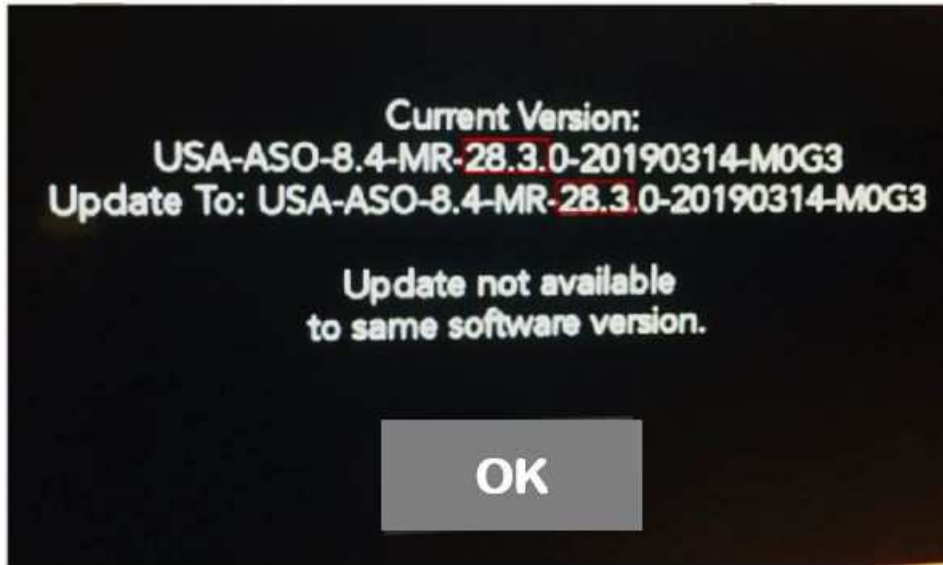

Fig. 11
16. Once the update has completed, the radio will reboot. With the USB flash drive still inserted in the USB port and the ignition in the “RUN” position, the screen in (Fig. 11) will be displayed. Press “OK” and remove the USB flash drive.